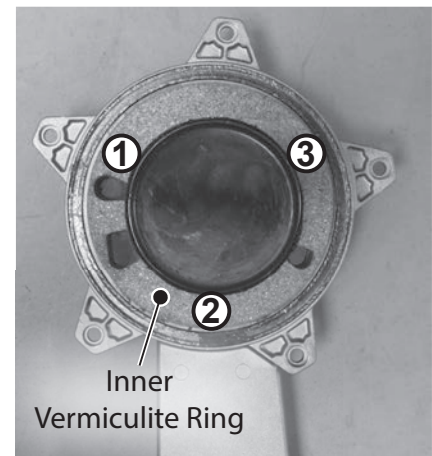

Figure 120 - Remove inner vermiculite ring
18 Locate the three (3) screws securing the inner vermiculite insulation ring to the burner door as shown in Figure 120. Use a Phillips screwdriver to remove screws. Place screws aside in a safe place for reinstallation.